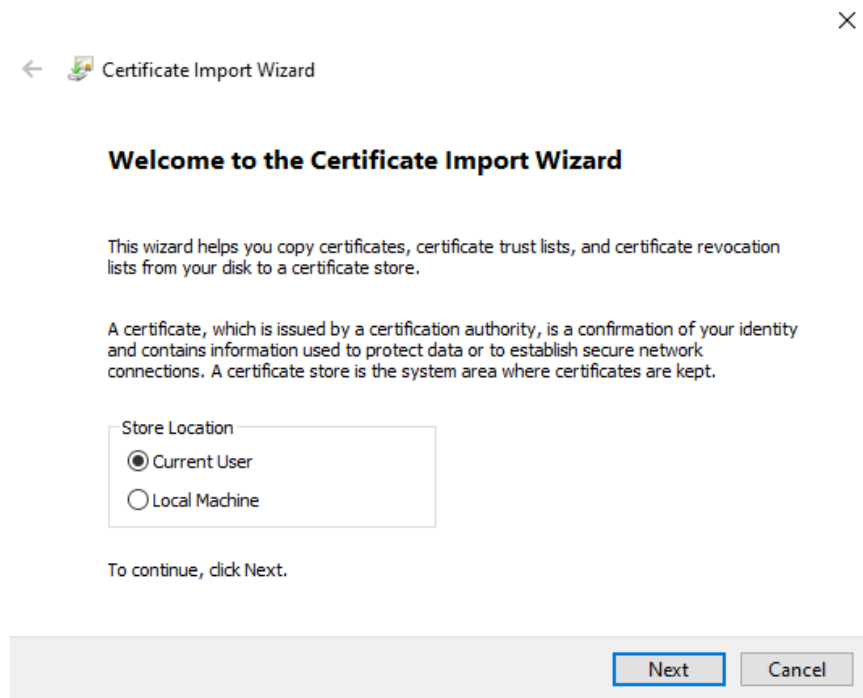

Figure 57: First Dialog of the Certificate Import Wizard
7. Click **Install Certificate**. The first screen of the Certificate Import Wizard appears (Figure 57).